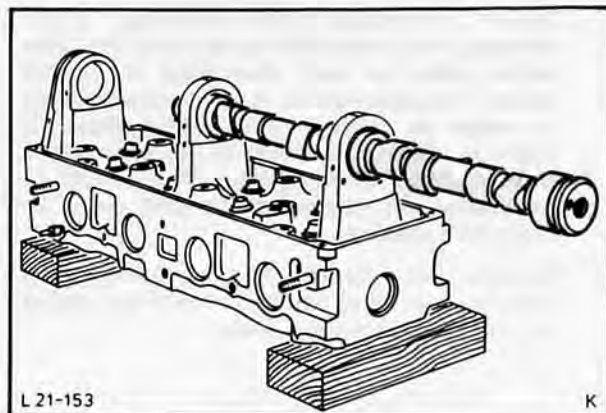

Fig. 157. Fit camshaft
12. Carefully insert camshaft through rear bearing, Fig. 157. Fit retaining plate and measure camshaft end-float using dial indicator (see Technical Data).